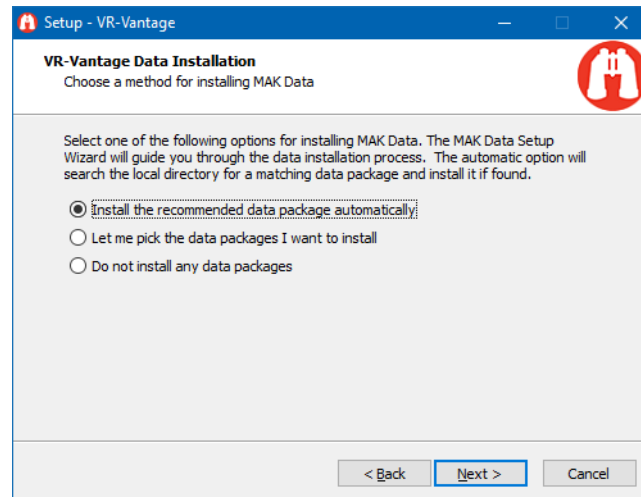

Figure 1-3. Data installer selection page
3. When you are prompted to choose an option for installing the data package (Figure 1-3), select the default - “Install the recommended data package automatically”.